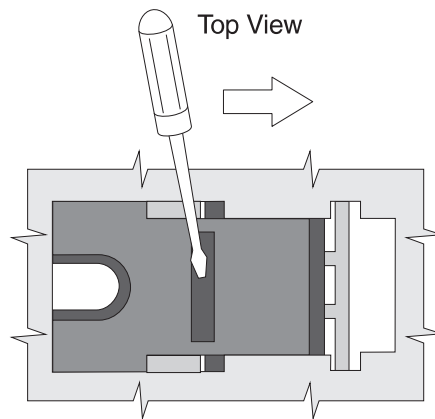
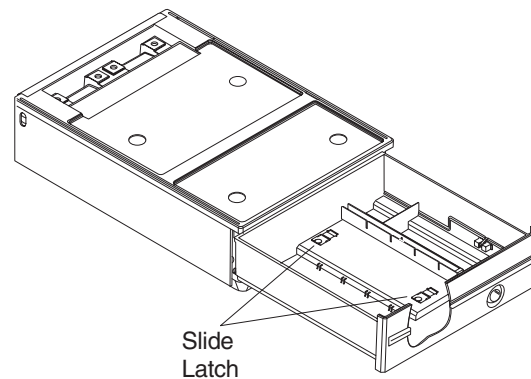

Figure 83. Releasing the drawer from the slide assembly
Figure 84. Removing and replacing the compact cash drawer
4. Facing the front of the drawer, use a coin or large screwdriver to move the drawer slide latches to the right until the drawer is released from the slide assembly (see Figure 83 and Figure 84). Lift the drawer out.